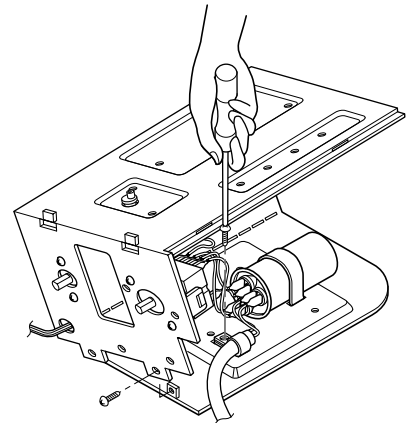

Figure 12
6. Pull the power cord. (See figure 12)